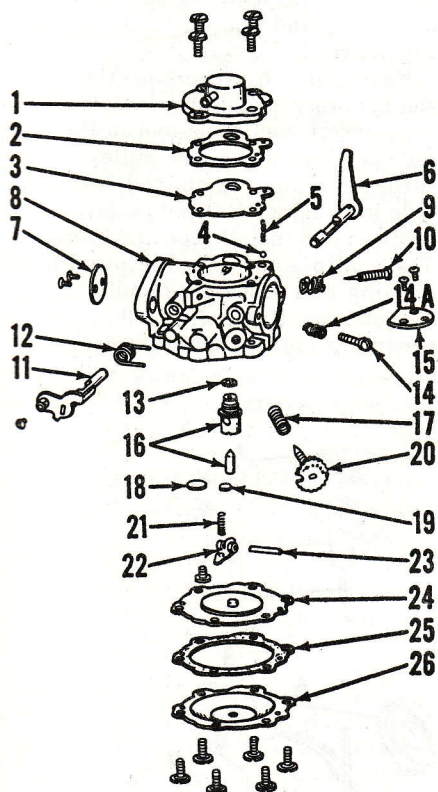

Fig. WR2—Exploded view of Carter ND carburetor. Carter NRD carburetor is similar.
turn open; for high speed needle is 1-1 1/2 turns open. On model NRD carburetor, set idle adjustment needle 1-turn open and high speed adjustment needle 2-turns open. On all carburetors, final adjustment must be made under operating conditions for best performance. Refer to Fig. WR2 for an exploded view of Carter diaphragm carburetor.
When assembling diaphragm, diaphragm cover and gasket on Carter carburetors, proceed as follows: Install diaphragm (24—Fig. WR2) with button contacting fuel control lever (22). Install gasket (25) and cover (26), and install but do not tighten the retaining screws. Insert a 1/16-inch drill or other suitable tool through center hole in cover (26) and lightly press diaphragm inward as screws are tightened.